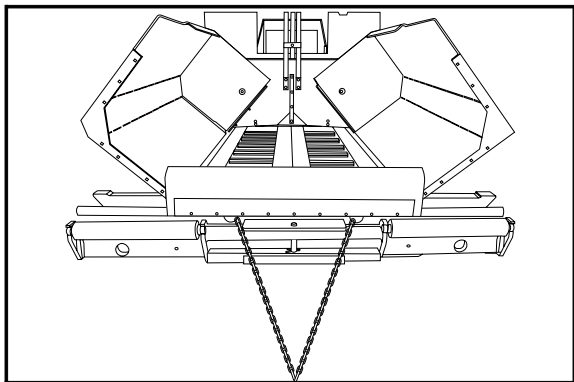

Figure 51. Attaching chain for towing
8) Run the chain through the holes shown. (Figure 51)